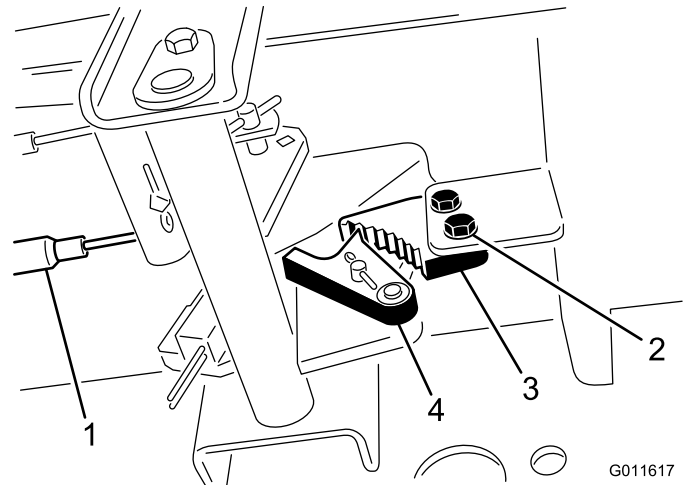

Figure 48
1. Loosen the 2 screws securing the parking brake pawl to the frame (Figure 48).
2. Press the parking brake pedal forward until the brake detent completely engages on the brake pawl (Figure 48).